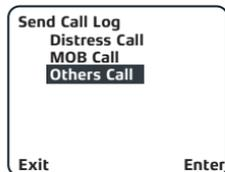

Figure 28
3. Rotate the multi-function knob to select from **Distress Call**, **MOB Call** or **Others Call** then press **Enter** to display your outgoing calls (fig 28).